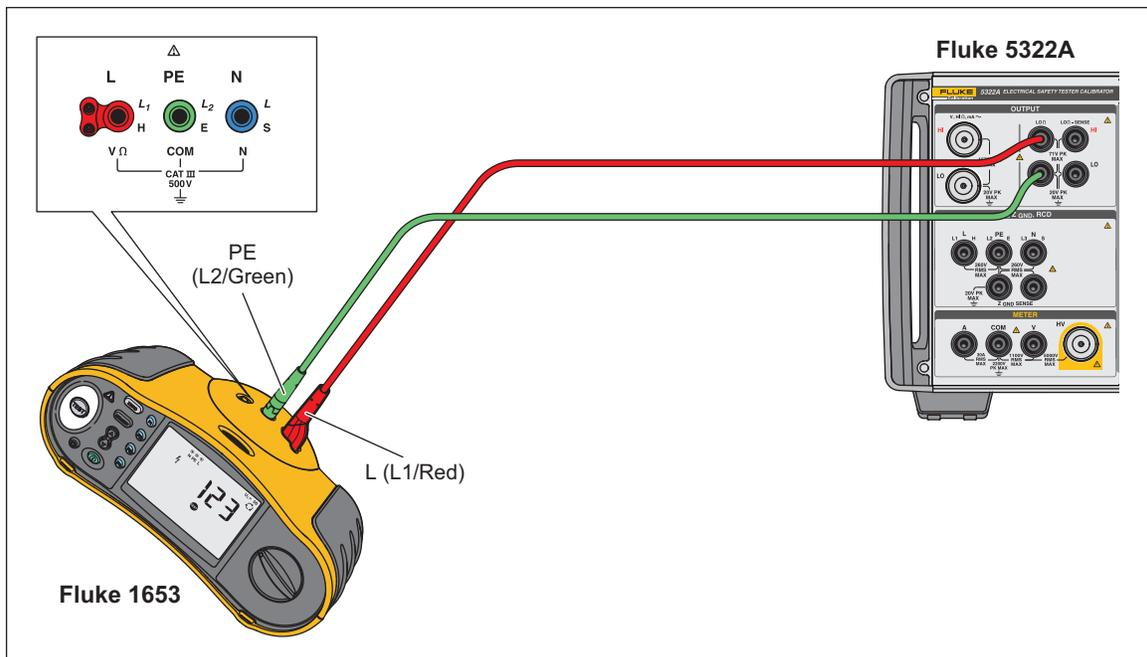

Figure 30. 2-Wire Resistance Calibration DUT Connections
2. Using Figure 30 for a reference, connect the DUT to the Product's **LOΩ HI** and **LO** terminals.